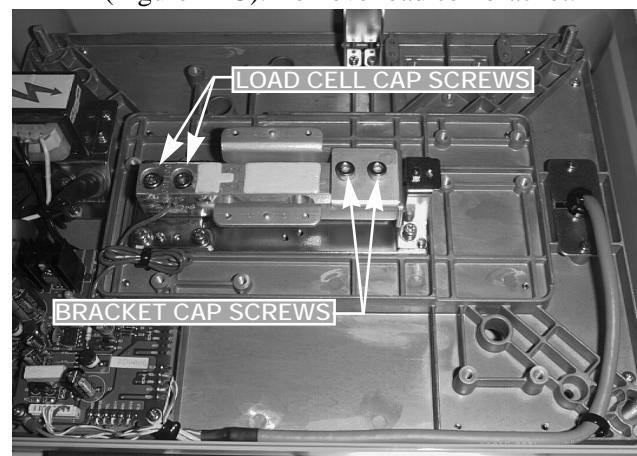

Figure 2-13. Remove Load Cell Bracket
7. Remove two 6 mm x 20 mm socket head load cell cap screws from load cell bracket (Figure 2-13). Remove load cell bracket.
8. Remove two 6 mm x 25 mm load cell cap screws (Figure 2-13). Remove load cell mount spacers.